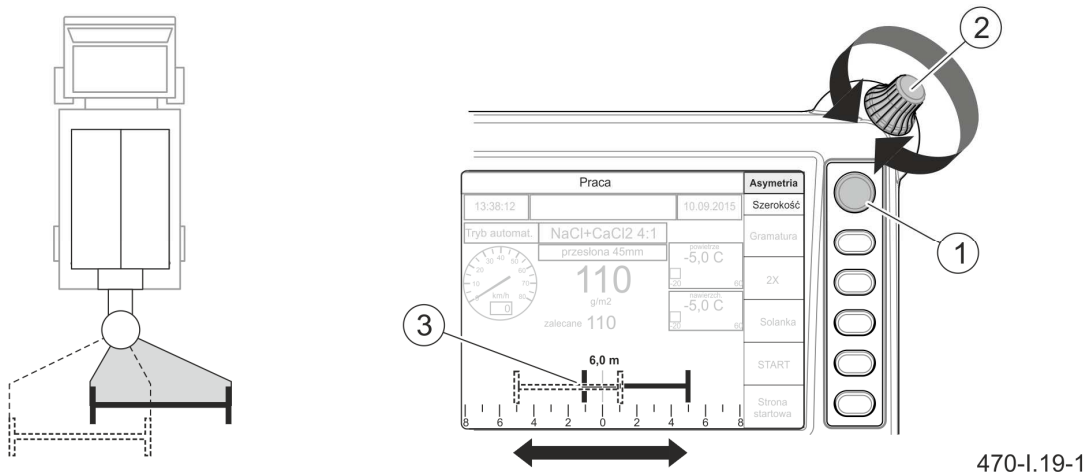

FIGURE 4.20 Changing asymmetry of spreading
(1) - selection push-button "ASYMMETRY-WIDTH"; (2) - parameter change knob;
To change asymmetry of spreading, highlight "Asymmetry" field on working page "Operation" by means of push-button (1). Turn knob (2) to move current spreading width to the right or to the left (FIGURE 4.20).
For example (FIGURE 4.20), in the figure above, for spreading width of 6 m, spreading asymmetry is shifted to the right.